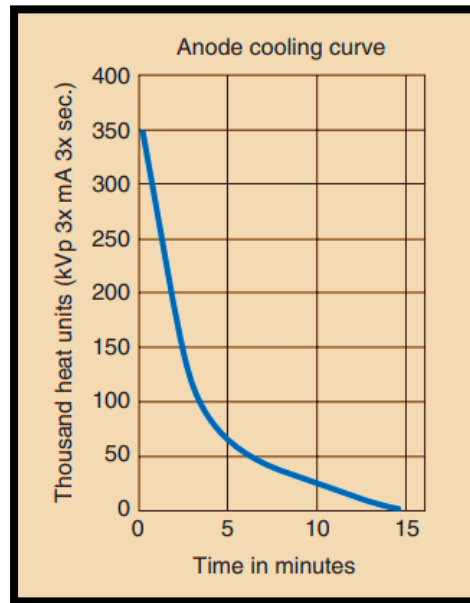

Figure3: Anode cooling chart shows time required for heated anode to cool.
-The tube represented in Figure 3 has a maximum anode heat capacity of 350,000 HU. The chart shows that if the maximum heat load were attained, it would take 15 minutes for the anode to cool completely.